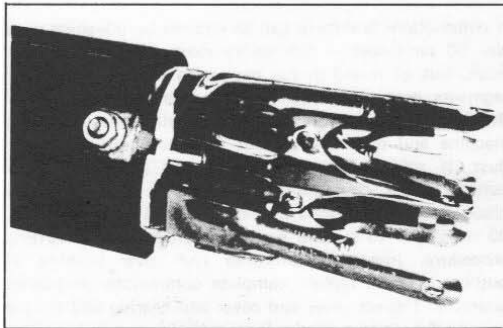

Figure 5-29. Using Clamps to Hold Prestolite Brushes in Place
Reassembly is essentially the reverse of the disassembly procedure. If brushes (9 and 10) and springs (8) have been released from holder, use clips or clamps as shown in figure 5-29 to hold them in place while installing armature. Note